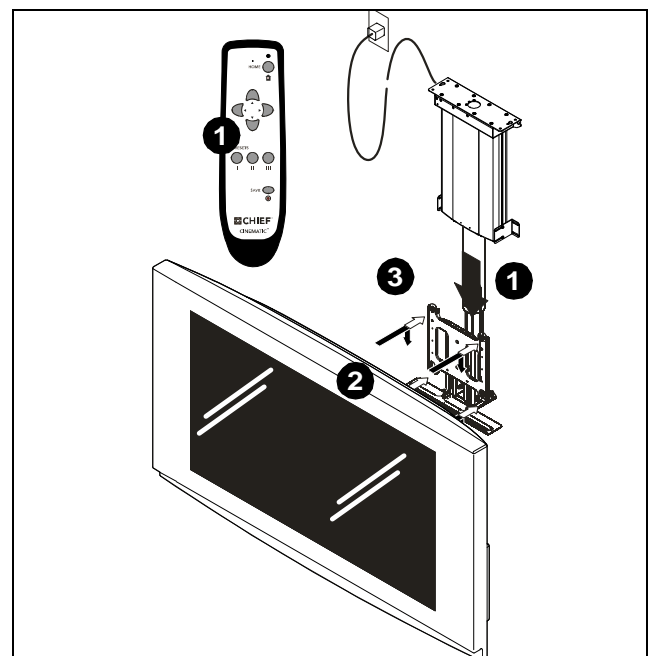
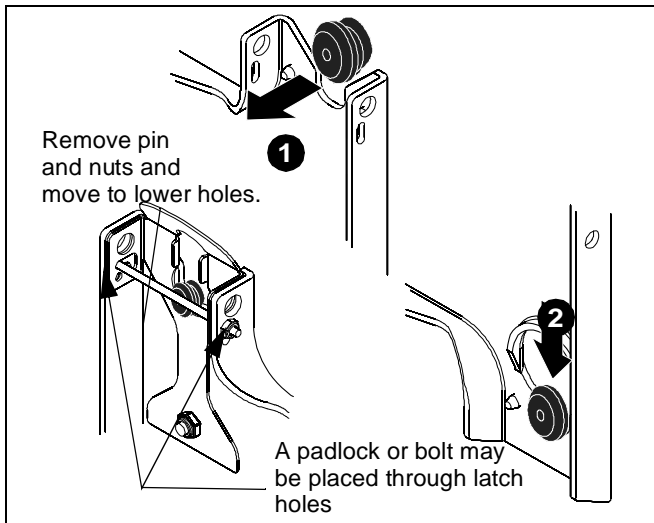

Figure 18:
Figure 19
2. While supporting both sides of display, align four mounting buttons on display or interface bracket with four mounting holes in faceplate. (See figure 18) and (See figure 19)
3. Lower display into place listening for audible "click" to ensure recessed area of mounting buttons are properly seated in lower area of mounting holes and "click lock" mechanism has engaged. (See figure 18) and (See figure 19)
NOTE: Holes are provided in the faceplate for use with a padlock or similar locking device, if desired. In addition, the pin and nut may be removed from the upper holes and moved to the lower holes for use as a more permanent locking device. (See figure 19)